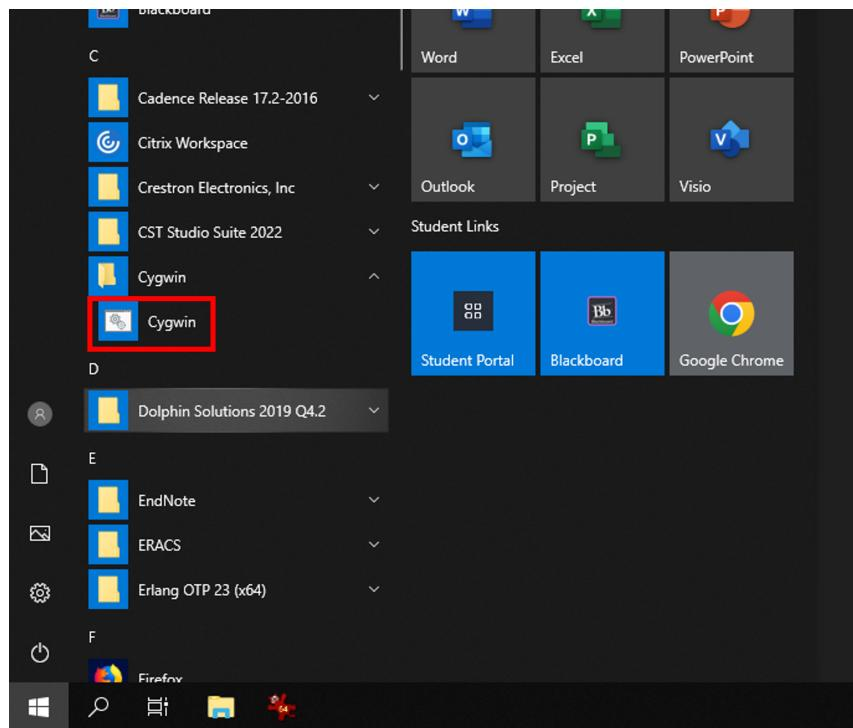

Figure 3.2: Opening Cygwin.
1. Open Cygwin as in figure 3.2.